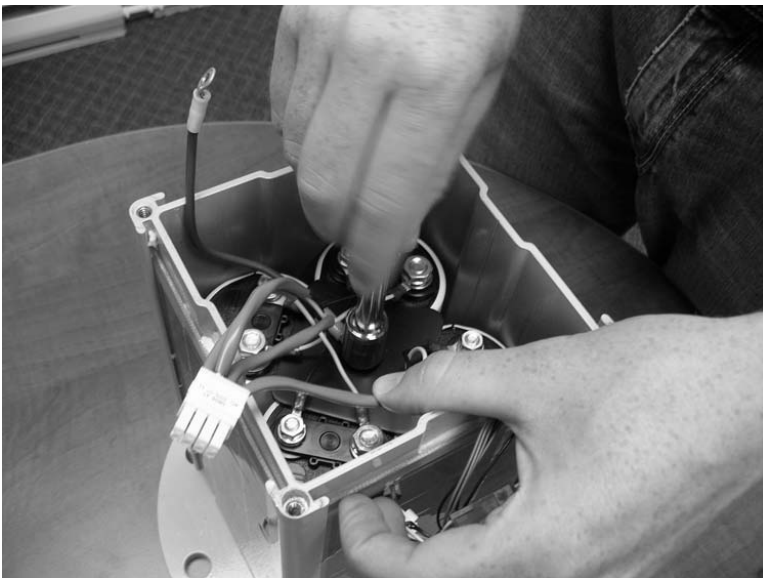

Figure 11-9: Tightening the Bolt
14. Insert the battery retention bolt through the circular terminal of the ground strap, and hand tighten the bolt using the socket and extension; see Figure 11-9.